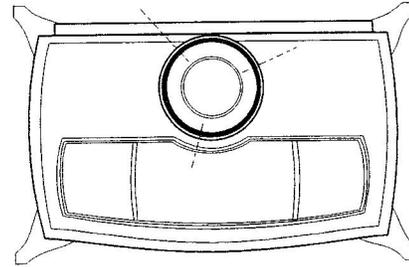

Figure 27. Outer flue collar pilot hole locations.
1) Orient the vertical seam to the rear and insert the crimped end of the outer pipe *into* the flue collar. Push it down as far as it will go and use a pencil to mark flue collar hole locations on the pipe as indicated in Fig. 27. Use a .234 bit to drill three holes into the crimped end at the marked locations.